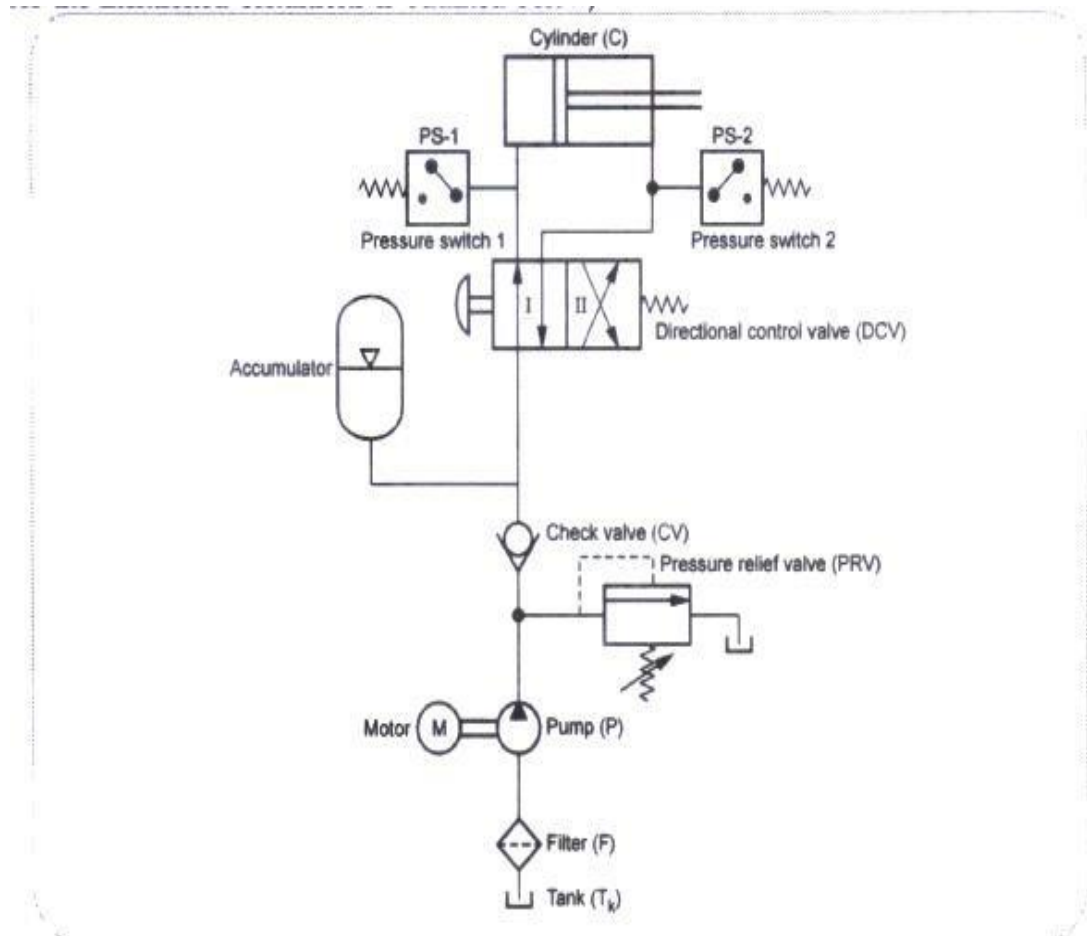

Figure 5.6: Hydraulic Circuit Design for Press:
a) Gives large amount of force b) Quantity of fluid flow is large c) The size of lines, cylinders etc. are large Due to above the working presses range of hydraulic pressures is quite high. Fig. 5.6 shows a typical circuit used for hydraulic press.